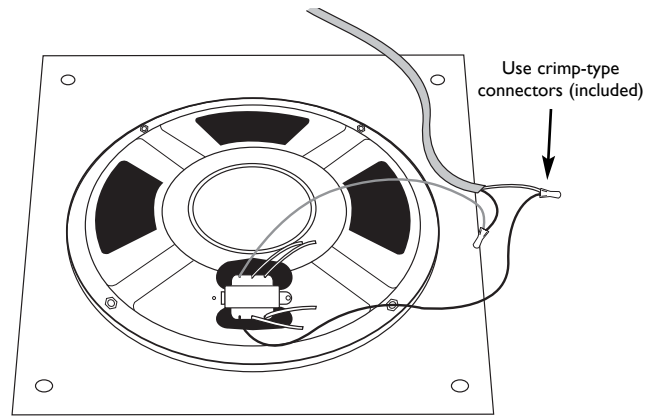

Figure 2
- Attach the speaker wires to the appropriate transformer tap wires (See Figure 2 and chart below).